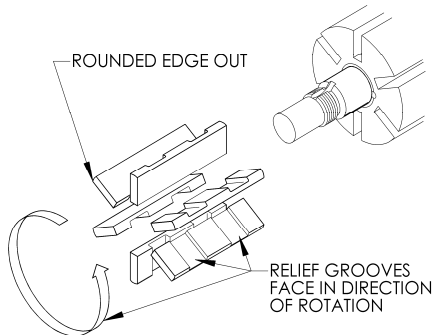
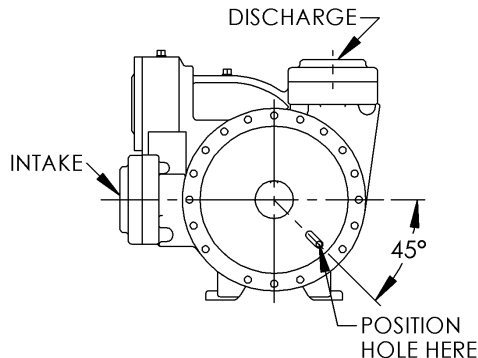

Figure 8 – Vane Installation
Figure 9 - Disc Relief Hole Location
3. Turn the shaft by hand until a vane (14) comes to the top (12 o'clock) position of the rotor. Remove the vane.
4. Install a new vane (14), ensuring that the rounded edge is UP, and the relief grooves are facing towards the direction of rotation. See Figure 8.
1. Apply grease to the liner key groove in the pump casing to hold the key (74) in place during liner installation. Install key in groove before starting liner (41) into pump casing (12).
2. Align the liner key (74) with the pump casing keyway and start the liner (41) into the casing (12) with the slots in the liner towards the INTAKE port, and the hole pattern in the liner towards the DISCHARGE port. Uniformly tap the outer edge of the liner with a rubber mallet to fully insert into the casing. NOTE: If the liner is installed backwards, it will restrict the port openings and cause cavitation, noise and loss of capacity.
3. Place the disc (71) against the liner (41) with the seal cavity outward and disc relief hole located as shown in Figure 9.
4. Without installing the head O-ring or mechanical seal components, temporarily attach the outboard head (20) and bearing (24) to the casing (12). Install and hand tighten two head capscrews (21), 180 degrees apart. This head will be used to hold and align the rotor and shaft (13) while the inboard side of the pump is assembled.
5. Remove the vanes (14) and push rods (77) from the rotor and shaft assembly (13). Inspect for wear and damage, and replace as follows:
- a. Partially install the non-driven end of the rotor and shaft (13) into the pump casing (12).
- b. Leave part of the rotor outside of the casing (12) so that the bottom vanes (14) can be installed and held in place as the push rods (77) are installed in the push rod holes of the rotor. Insert the new vanes into the rotor slots with the rounded edges outward, and the vane relief grooves facing TOWARDS the direction of rotation. See Figure 8.
- c. After the bottom vanes and push rods are installed, insert the rotor and shaft (13) fully into the casing .
- d. Install the remaining vanes (14) into the top positions of the rotor.
6. Install the disc (71) on the inboard side of the pump with the seal cavity facing outward and the disc relief hole located as shown in Figure 9.